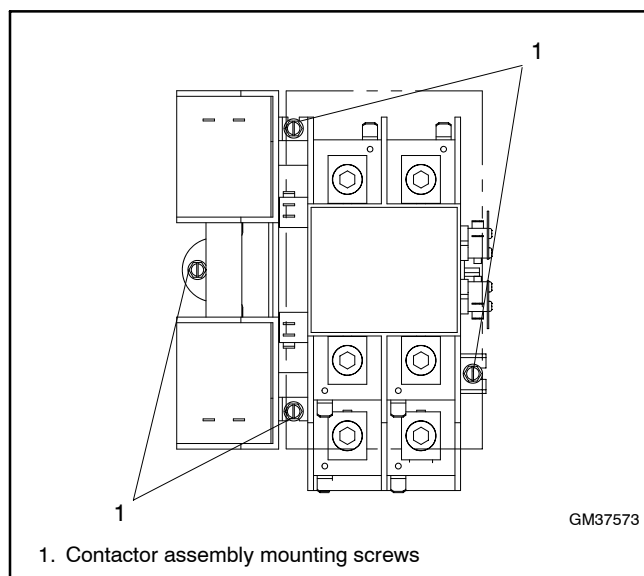
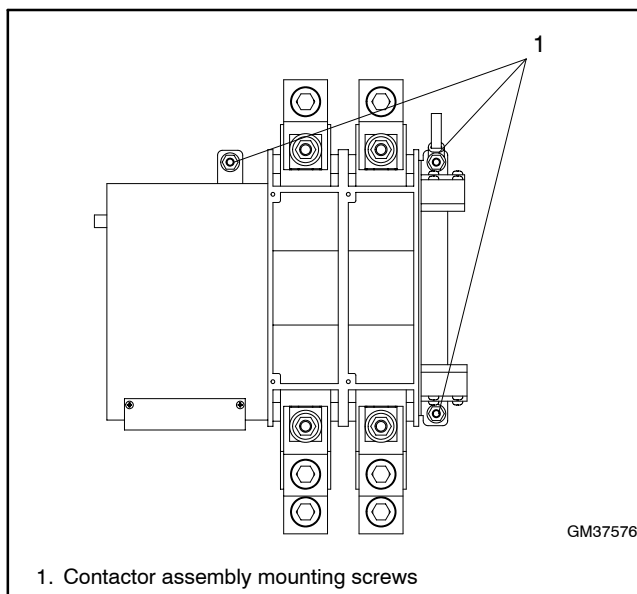

Figure 7-3 Contactor Mounting Screws, 100/200 Amp Models, Typical
Figure 7-4 Contactor Mounting Screws, 400 Amp Models
4. Support the contactor and remove the screws located at the corners of the contactor's base that secure the contactor assembly to the back wall of the enclosure. See Figure 7-3 or Figure 7-4.